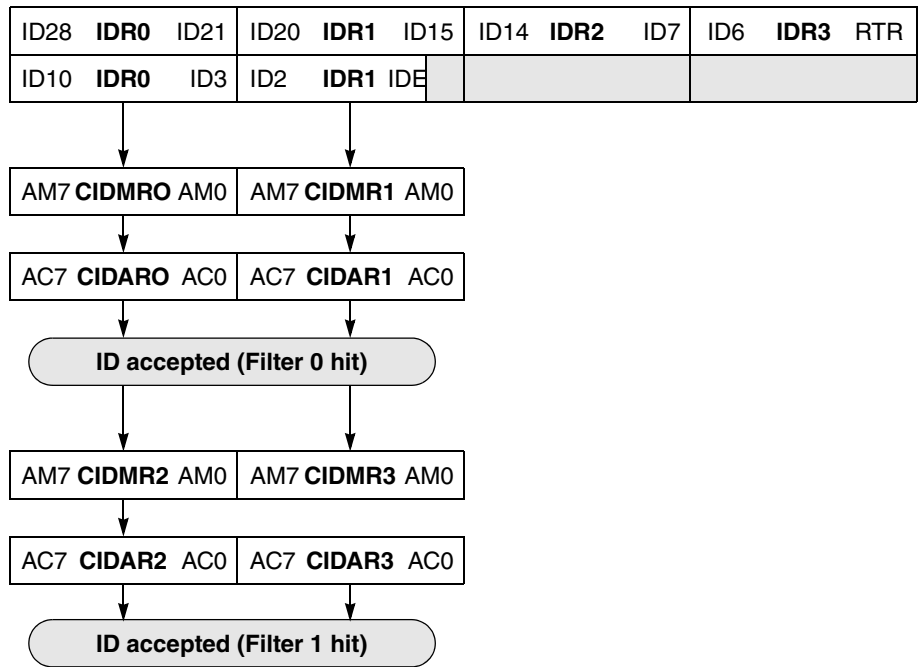

**Figure 18-4. 16-bit Maskable Acceptance Filters**
- Four identifier acceptance filters, each to be applied to a) the 11 bits of the identifier and the RTR bit of CAN 2.0A messages or b) the 14 most significant bits of the identifier of CAN 2.0B messages. Figure 18-4 shows how the first 32-bit filter bank (CIDAR0–3, CIDMR0–3) produces filter 0 and 1 hits. Similarly, the second filter bank (CIDAR4–7, CIDMR4–7) produces filter 2 and 3 hits.